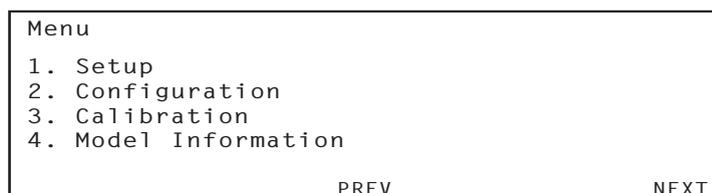

Fig. 3-4 Menu display (in case of item #1)
- 2 Press the “MENU (SHIFT + SET / V SET)” key to proceed to the menu screen (Fig. 3-4).